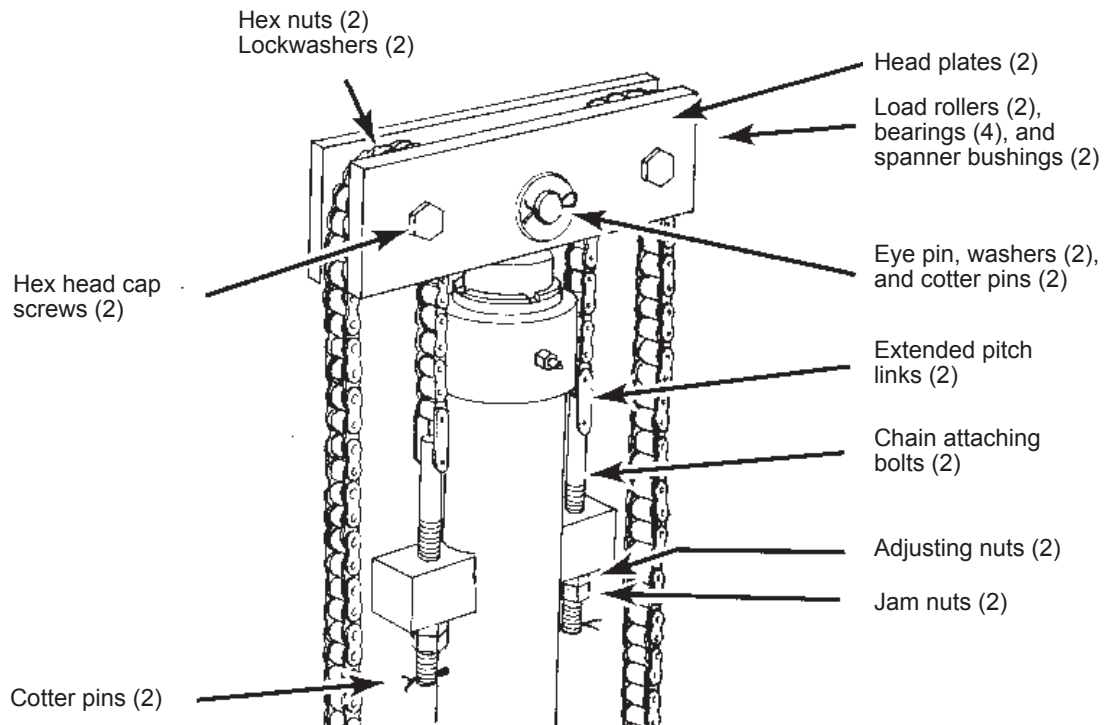

Fig. 1-19 – Equalizing Head Plate Assembly
1. Both of the lifting chains pass over the equalizing head plate. During lifting, this head plate is designed to maintain equal upward lifting pressure on the two chains. We have shown the head plate assembly in Fig. 1-19.
3. Remove the equalizing head plate assembly from the top of the ram. See Fig. 1-19. Undo the hex head cap screws on either side of the assembly and disconnect the lifting chains. In the center of the assembly, remove one of the cotter pins and pull out the eye pin. Lift the head plate assembly off of the end of the ram.